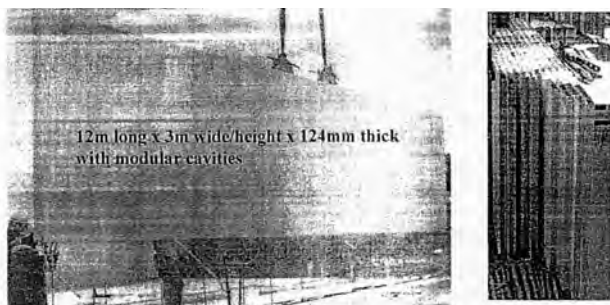

Figure 1: Rapid wall Panel
Rapidwall is a revolutionary hi-tech building technology, Rapid wall is energy efficient, eco-friendly and world's largest load bearing, light weight, pre-fabricated building panel. It is manufactured in 12m long x3m high/wide and 124mm thickness with modular cavities as show in Figure 1. It is produced with high quality gypsum plaster, reinforced by glass fibre roving and other harmless chemicals and special additives. One of the advantages of pre-fabricated Rapid wall is that it can be used in combination with reinforced concrete (RC) in cast-in-situ monolithic construction. When concrete is in-filled in the cavities of panel with M20 /M25 concrete, its load bearing capacity increased 8.5 times or 850% from 160 kN/m to 1360 kN/m. Rapidwall and RC become composite material, giving advantages of both Rapidwall and RC in building construction.